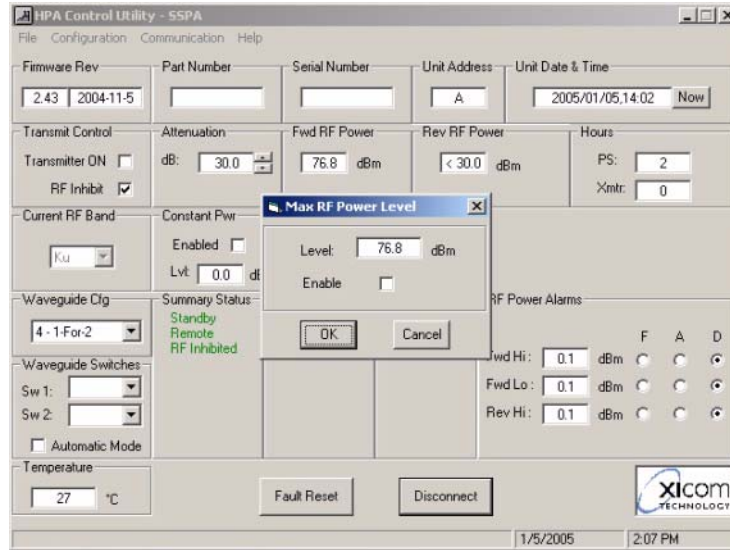

Figure 9, Maximum Power Level
7. Refer to Figure 9 on page 11. The “Configuration -> Max RF Power Level” sets the maximum power that may be produced by the amplifier. Once this output level is achieved, the amplifier will increase attenuation in the event that input drive is increased. This will continue until the input attenuator is at the maximum attenuation, after which the amplifier will fault with an overdrive condition.